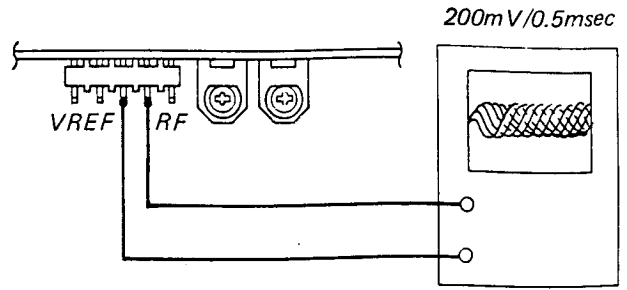

Figure 33
1. Connect oscilloscope to pins "VREF" and "RF" of J707. (Figure 33)